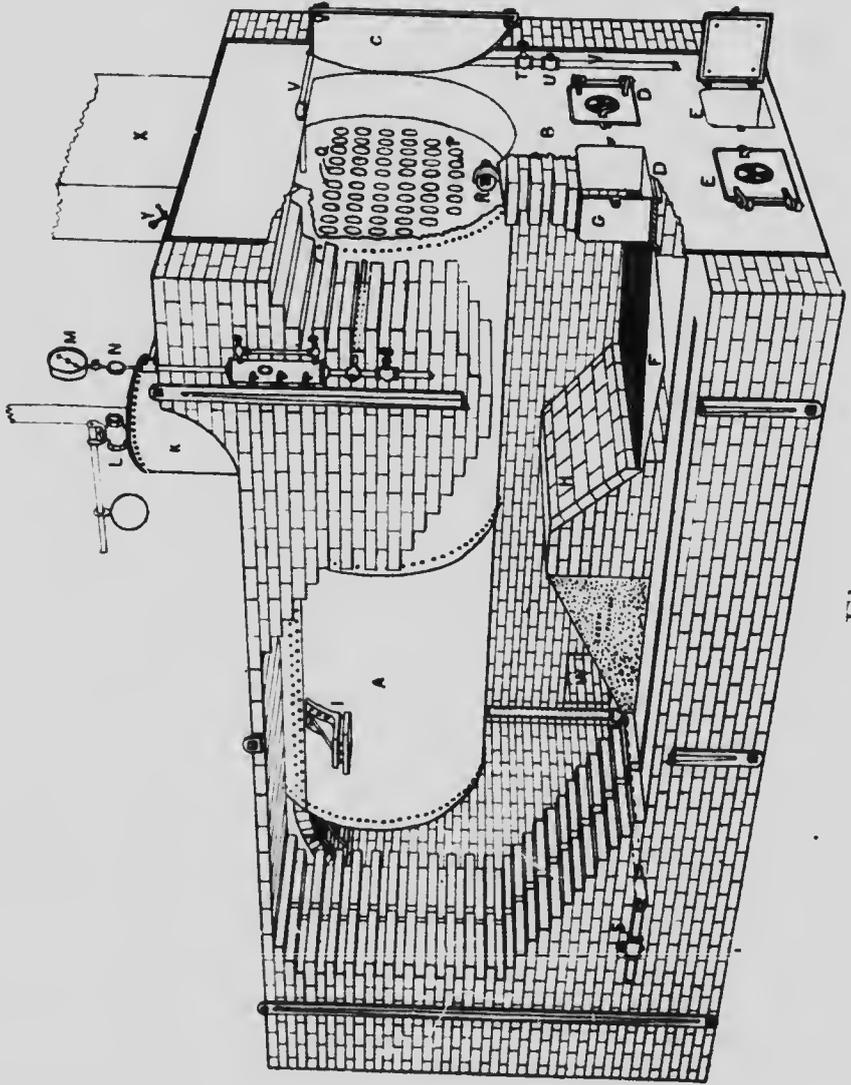

Fig. 2.
Horizontal Boilers. Figure 2 shows a horizontal return tubular boiler set in brick work, which is a form in common use in creameries and small stationary plants. It is probably the best boiler for such places, being economical of fuel, easily managed and cleaned. Because of its cylindrical form the greater part of the dirt and sediment will settle at the bottom where it may be easily scraped and washed out through the hand-hole (R) and blow-off (S).